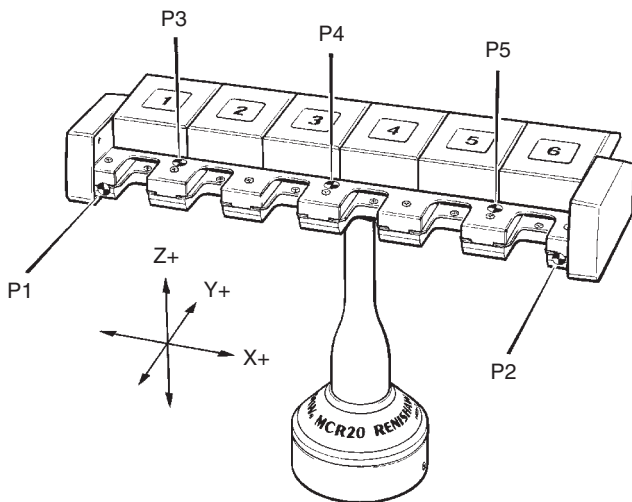

Figure 8 - Datuming the MCR20 probe module changing rack
To align the MCR20 probe module changing rack to the axes of your CMM, carry out the following procedures (see figure 8):
3.5.2 Establishing the docking depth (Y)
To establish the docking depth (Y) of the MCR20 ports, carry out the following procedure (see figure 8):
3.5.3 Establishing the docking height (Z)
To establish the docking height (Z) of the MCR20 ports, carry out the following procedure (see figure 8):